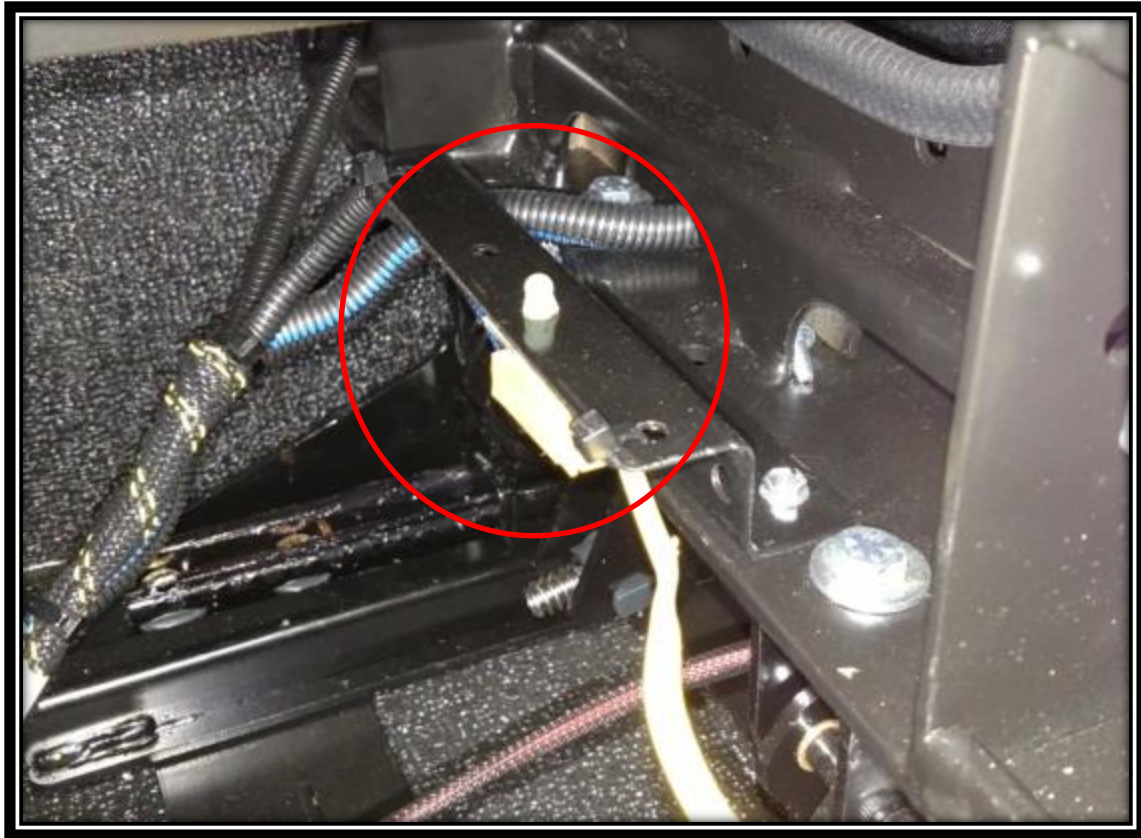

FIG. 8.1
12. Some seats will require the bracket to be attached directly to the rear seat brace, as retractor harness is too short to be fastened to floor. Refer to FIG. 8.1.